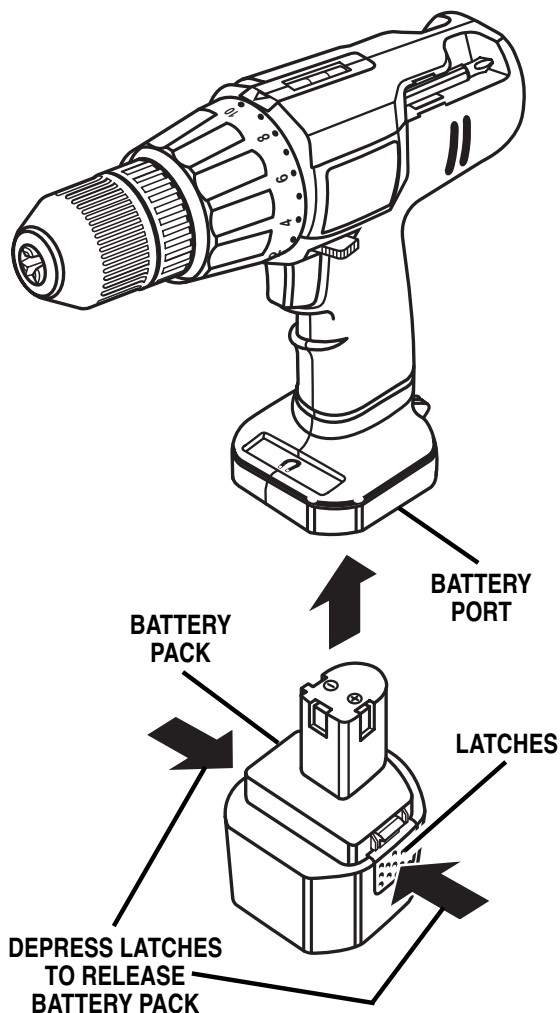

Fig. 4
- Place the battery pack in your drill. Align raised rib on battery pack with groove in drill's battery port. See Figure 4.
- Locate latches on side of battery pack and depress both sides to release battery pack from your drill. See Figure 4.